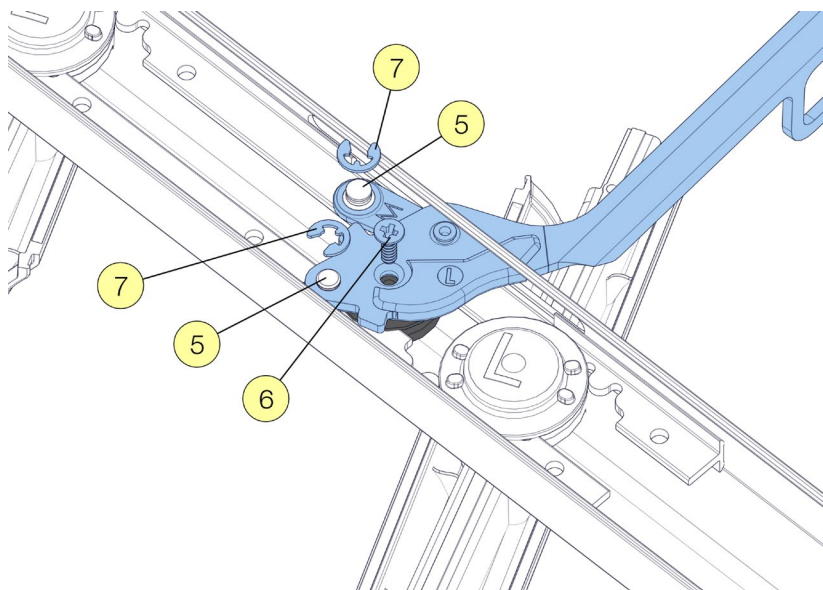

Fig. 23.4.1.4.4-1.4
7. Secure the handle by attaching E-Clips to both Op Bar rivets. *Refer to Figure 23.4.1.4.4-1.4.*